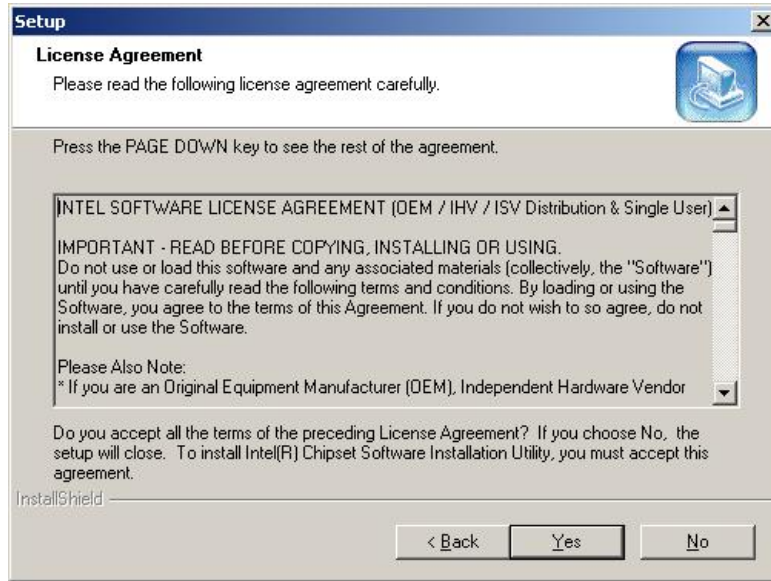

Figure 6-3: License Agreement
Step 4: Click “NEXT” and the license agreement shown in **Figure 6-3** appears.